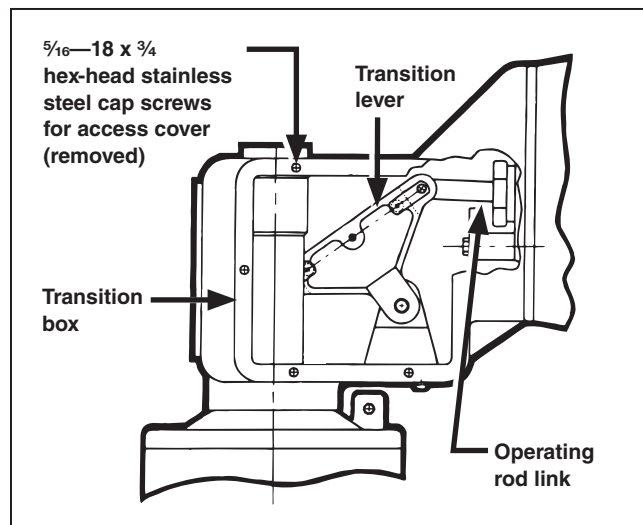
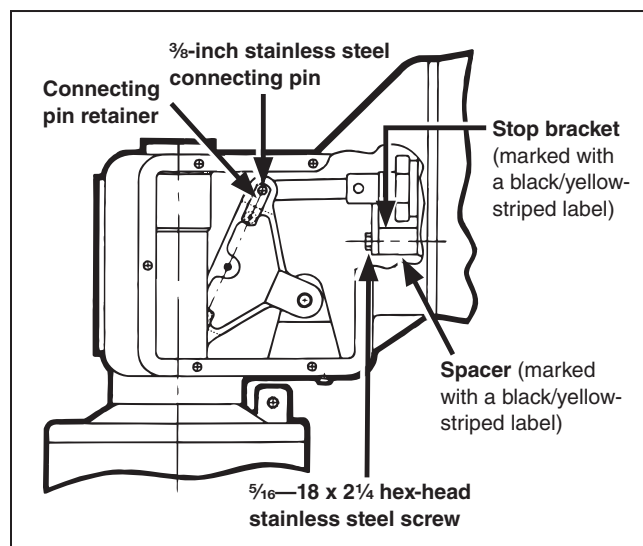

Figure 11. The transition lever in the Shipping position.
Figure 12. Transition lever in the Open position.
- (a) Remove the six $\frac{5}{16}$ -18 \times $\frac{3}{4}$ -inch hex-head stainless steel cap screws used to attach the access cover to the side of the transition box. See Figure 11. Remove the cover and place it and the hardware on a clean surface.
- (b) Make sure the transition lever is in the **Open** position. The lever should be turned fully counterclockwise. See Figure 11 and Figure 12. If the lever is not in the **Open** position, carefully turn the transition lever to the **Open** position.
- (c) Remove the $\frac{3}{8}$ -inch stainless steel connecting pin used to attach the transition lever to the operating rod link. See Figure 12. The pin is locked in place by a retainer. Lift and turn the retainer to remove the pin. Keep the pin for re-use in Step 1(e) on page 18.
- (e) Replace the $\frac{3}{8}$ -inch stainless steel connecting pin retained from Step 1(c) on page 17. See Figure 12 on page 17. It will be necessary to loosen the $\frac{5}{16}$ -18 \times $2\frac{1}{4}$ -inch hex-head stainless steel screw holding the spacer in place and withdraw it approximately $\frac{1}{8}$ -inch so the connecting pin can be inserted. Do not remove the screw at this time.
- (g) Remove and discard the $\frac{5}{16}$ -18 \times $2\frac{1}{4}$ -inch hex-head stainless steel screw, spacer, and stop bracket (marked with a black/yellow-striped label) shown in Figure 12 on page 17
- The transition lever has been connected to the operating rod link (see Figure 12 on page 17)
STEP 3. Replace the access cover on the side of each transition box and securely tighten the associated $\frac{5}{16}$ -18 \times $\frac{3}{4}$ -inch hex-head stainless steel cap screws. See Figure 11 on page 17.